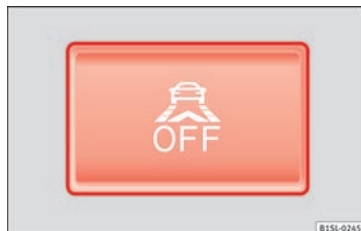

Fig. 155 In the lower part of the centre console: Button for the City Safety Assist function.
The City Safety Assist function has been switched on manually using the button  » Fig. 155.	The control lamp turns off after about 5 seconds.
Within the operating area of 5-30 km/h (3-19 mph): The City Safety Assist function has been switched off manually using the button  » Fig. 155.	Switch on the City Safety Assist function manually using the button  » Fig. 155.
- Press the »» **Fig. 155** button on the centre console.